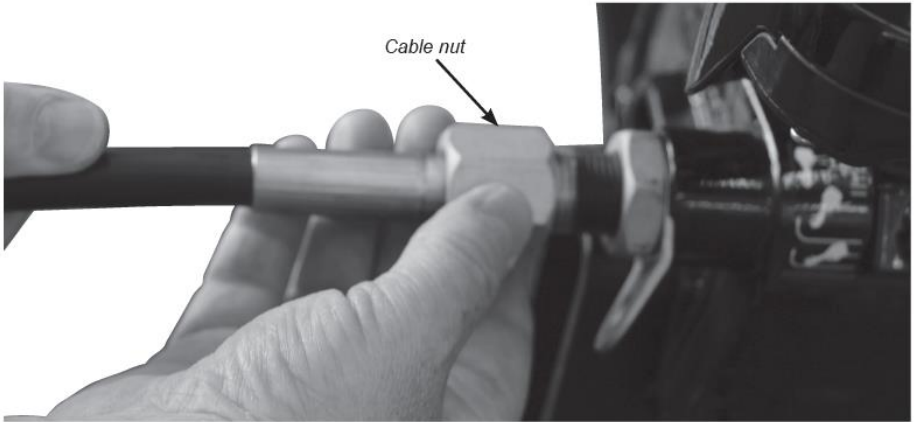

Fig B7 - Tightening the steering cable nut
- ii) Hand-tighten the cable nut (Fig B7) and torque to 175in-lb (20Nm). The nut has an internal locking thread which increases the amount of torque required initially as the thread is cut.